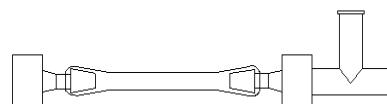

Figure 5. Manifold Plumbing Piece
- 2 If you have manifold pieces (shown in Figure 5) connected to your reagent lines, you should follow the instructions for **Moving Manifolded Modules**. Otherwise, follow the instructions for **Moving Modules with Individual Reagent Lines**.